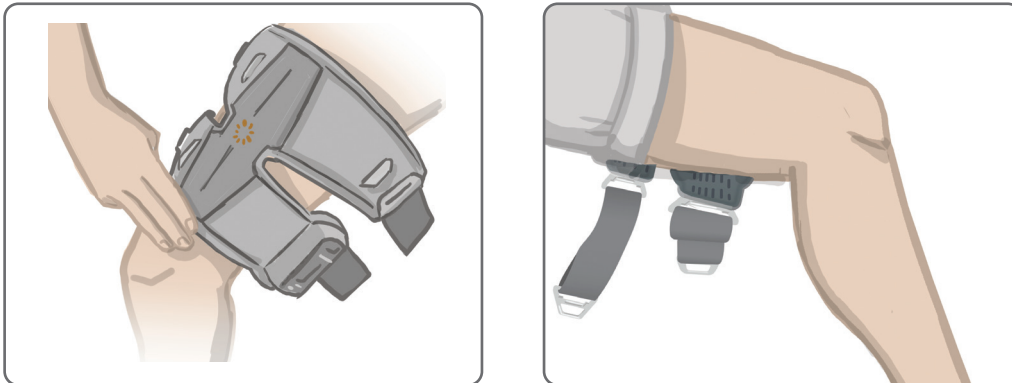

Figure 8-17: Correct Position of the Thigh Cuff Locator
4. Place the Thigh Cuff locator (a tactile finger mark) on the midline of the thigh, approximately three finger widths proximal from the patella if stimulating the quadriceps or from the popliteal fossa if stimulating the hamstrings. See Figure 8-17.